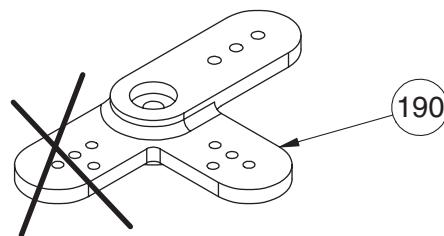

Figure I-11
- 1. For rotary valve carburetors, you will need to remove the straight, shorter arm of the Throttle Servo Arm (190), as shown in Figure I-11. Cut off the Arm with heavy duty clippers or a Dremel™ hobby tool.